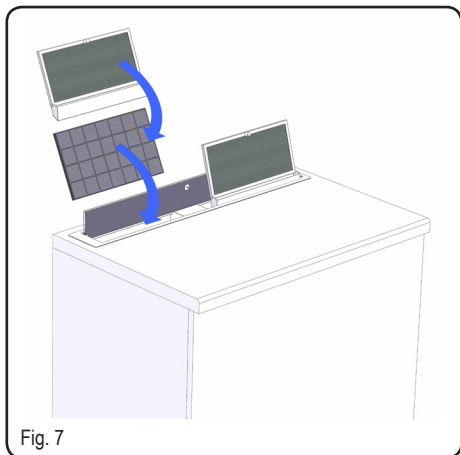

Fig. 7
9. After completing the installation and connecting the appliance to the power supply, activate the downdraft as indicated in the "HOW THE DOWNDRAFT WORKS" section. Place the charcoal filters, if the appliance is used in the recirculation mode (charcoal filters are supplied separately, CAP66CF X 2), behind the grease filters (see fig. 7), and then settle the front glass by sticking the magnets into the specific seats.
The assembly and disassembly of grease filters and charcoal filters must be made with the downdraft in the open position. For this, actuate the opening of the glass as indicated by the operation section. Inhere the grease filters as shown in figure 7, in the case the charcoal filters are necessary, install these first as shown in figure 7.